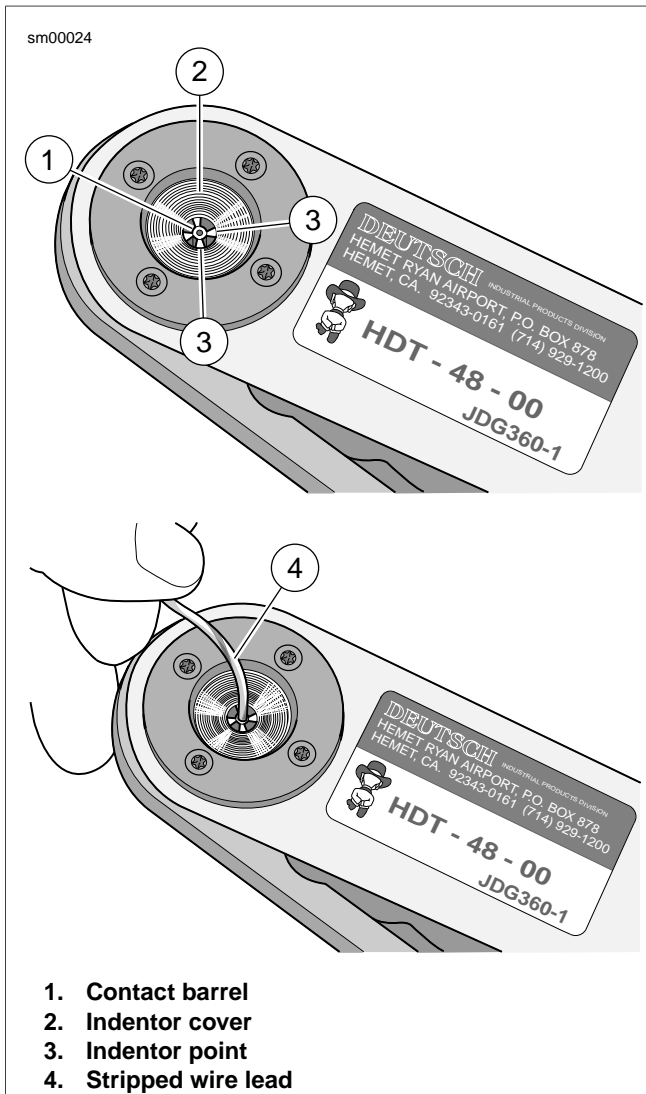

Figure A-38. Deutsch Solid Barrel
1. See Figure A-38. Turn tool over and drop contact barrel (1) into indenter cover (2) hole with the wire end out.
3. Slowly squeeze handles of crimp tool until contact centers between the four indenter points (3).
4. Insert bare wire core strands of stripped wire lead (4) into contact barrel. Squeeze handle of crimp tool until tightly closed. Tool automatically opens when the crimping sequence is complete.